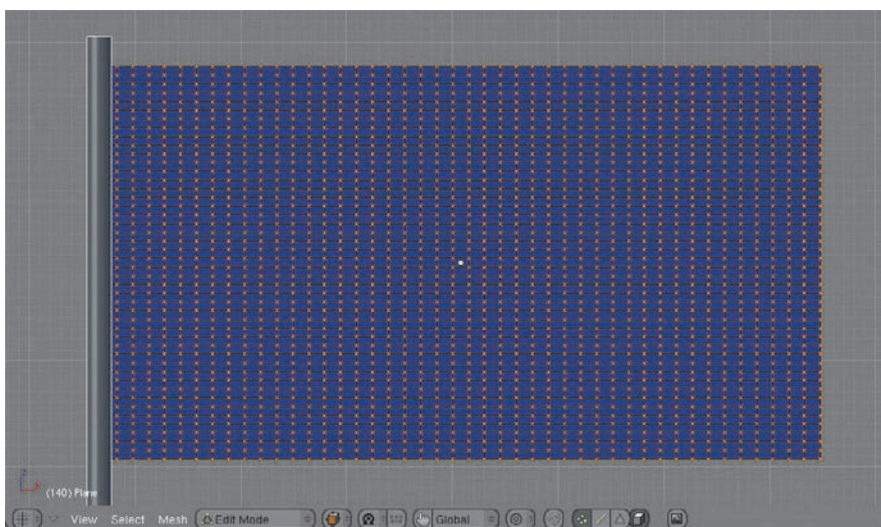

Figure 1.60 The subdivided flag mesh
1. Model the flag and the flagpole. The flagpole can be a simple cylinder scaled appropriately. The flag is a plane, scaled to the appropriate dimensions and subdivided to about the level shown in Figure 1.60. You can press the W key, select Subdivide Multi, and set a factor of 45 to get a good level of subdivision. Activate a Subsurf modifier and click Set Smooth. Create materials for the pole and flag and set the material settings for color and specular to whatever you think looks good.